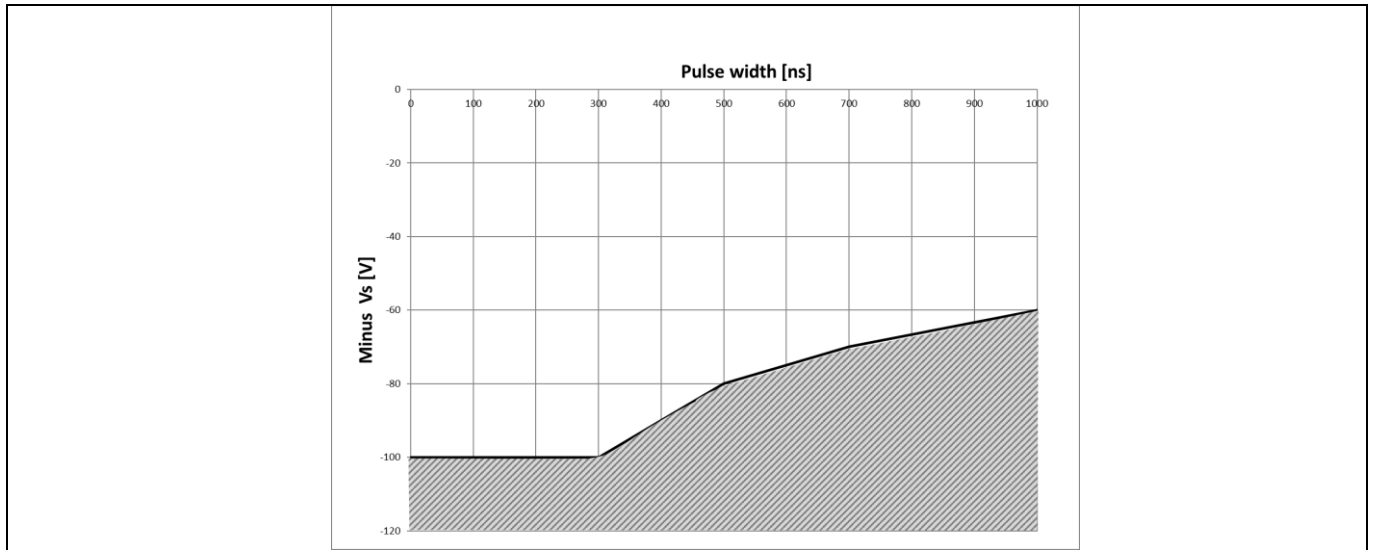

Figure 22 Negative VS transient SOA for 2ED2109 (4) S06F (J) @ VBS=15 V
Infineon’s HVICs have been designed for the robustness required in many of today’s demanding applications. An indication of the 2ED2109 (4) S06F (J)’s robustness can be seen in Figure 22, where the 2ED2109 (4) S06F (J)’s Safe Operating Area is shown at $V_{BS}=15V$ based on repetitive negative V_S spikes. A negative V_S transient voltage falling in the grey area (outside SOA) may lead to IC permanent damage; viceversa unwanted functional anomalies or permanent damage to the IC do not appear if negative V_S transients fall inside the SOA.